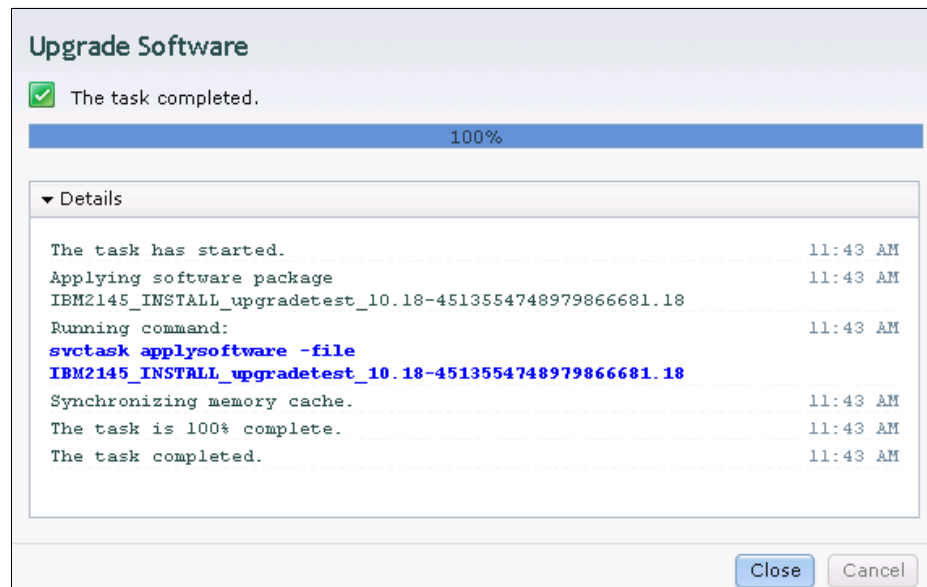

Figure 13-12 Upgrade Test Utility applied
5. Click **Next**; the upgrade test utility is applied and the next window opens (Figure 13-12).